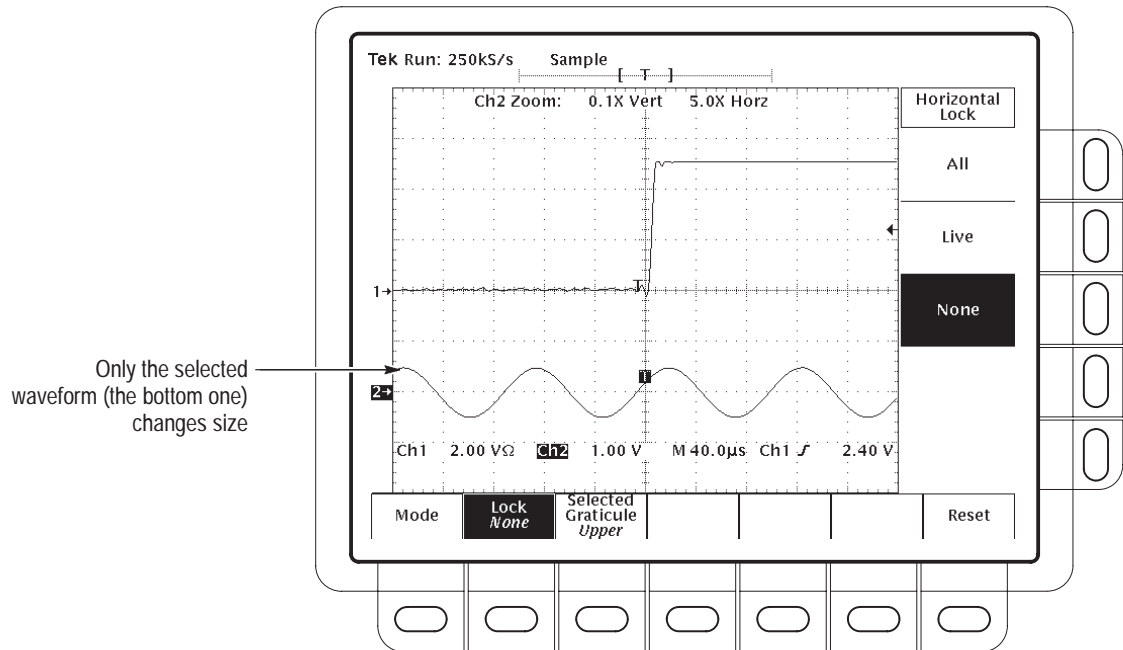

Figure 3-79: Zoom Mode with Horizontal Lock Set to None
The zoom readout appears at the top of the display when zoom is on. See Figure 3-79 on page 3–145.
*None* — only the waveform currently selected can be magnified and positioned horizontally (Figure 3-79).